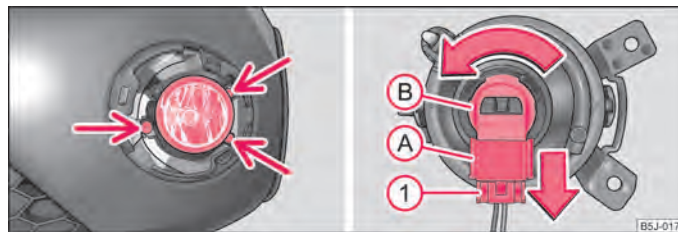

Fig. 158 Front bumper: Fog lights/changing the bulb ▶
- Use the screwdriver to unscrew the screws from the car tool kit 1) ⇒ fig. 158 - left.
- Press the locking button ① ⇒ fig. 158 of the plug ② and remove the plug from the socket ③.
- Turn the socket ④ with the bulb to the left up to the stop and take it out.
- Connect the plug ② to the socket ④.